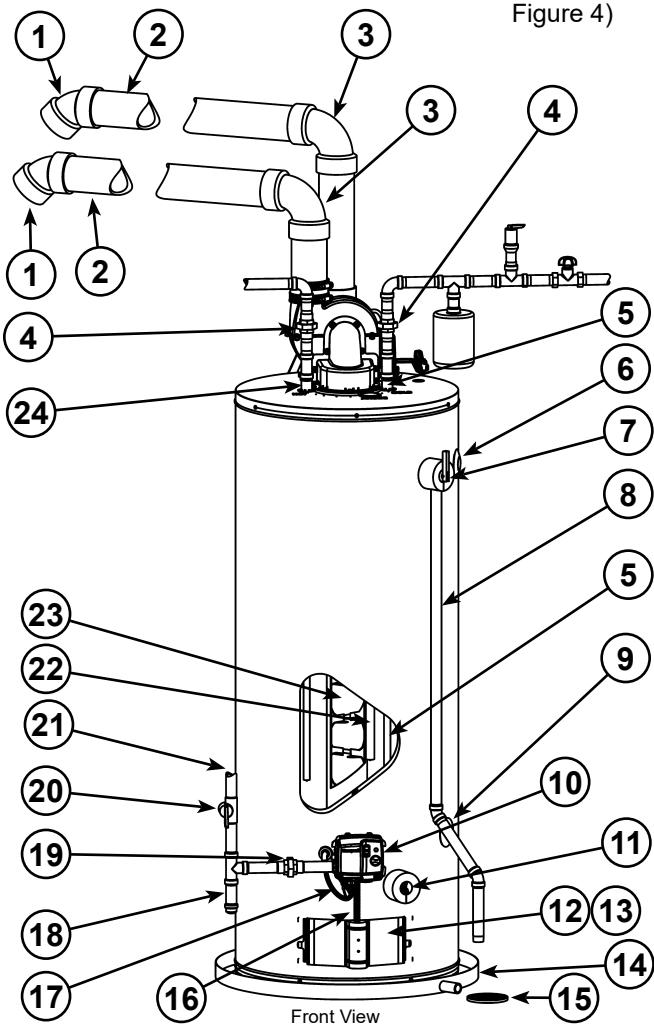
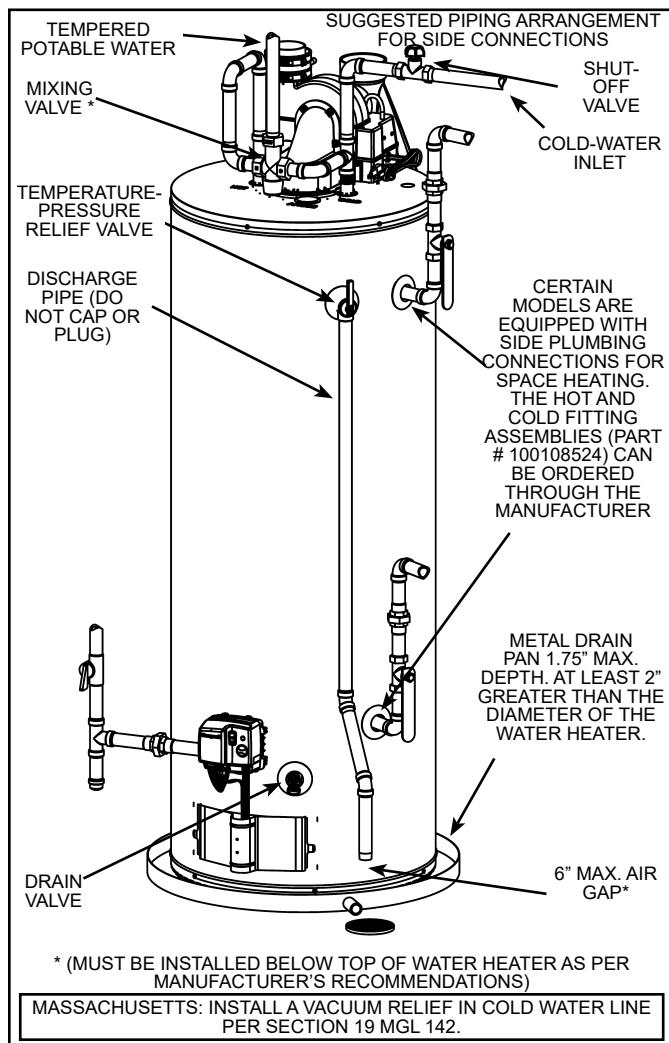
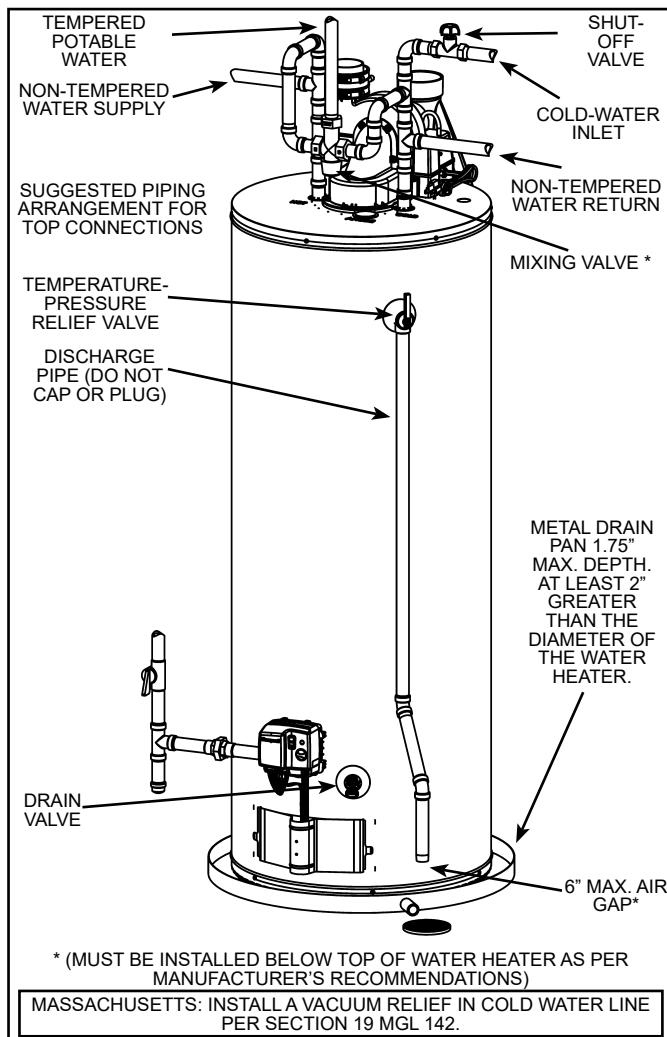

Figure 1.
Figure 7.
Figure 8.
Models equipped with Combo Heating capabilities are shipped with the two side plumbing taps **OPEN** (item 6 and item 9 in Figure 1). See also Figure 7. If the heater is to be operated without using the side taps for combo heating, these openings **must be plugged** with the two pipe plugs supplied with the heaters.
In addition to using lowest possible temperature setting that satisfies demand of application, a mixing valve should be installed at water heater (see Figure 7 and Figure 8) or at hot-water taps to further reduce system water temperature.
This feature is a part of the gas control valve/thermostat (see Figure 1, item 9) and limits the maximum water temperature. In the event of the water overheating, this safety feature shuts off the fuel supply to the burner.